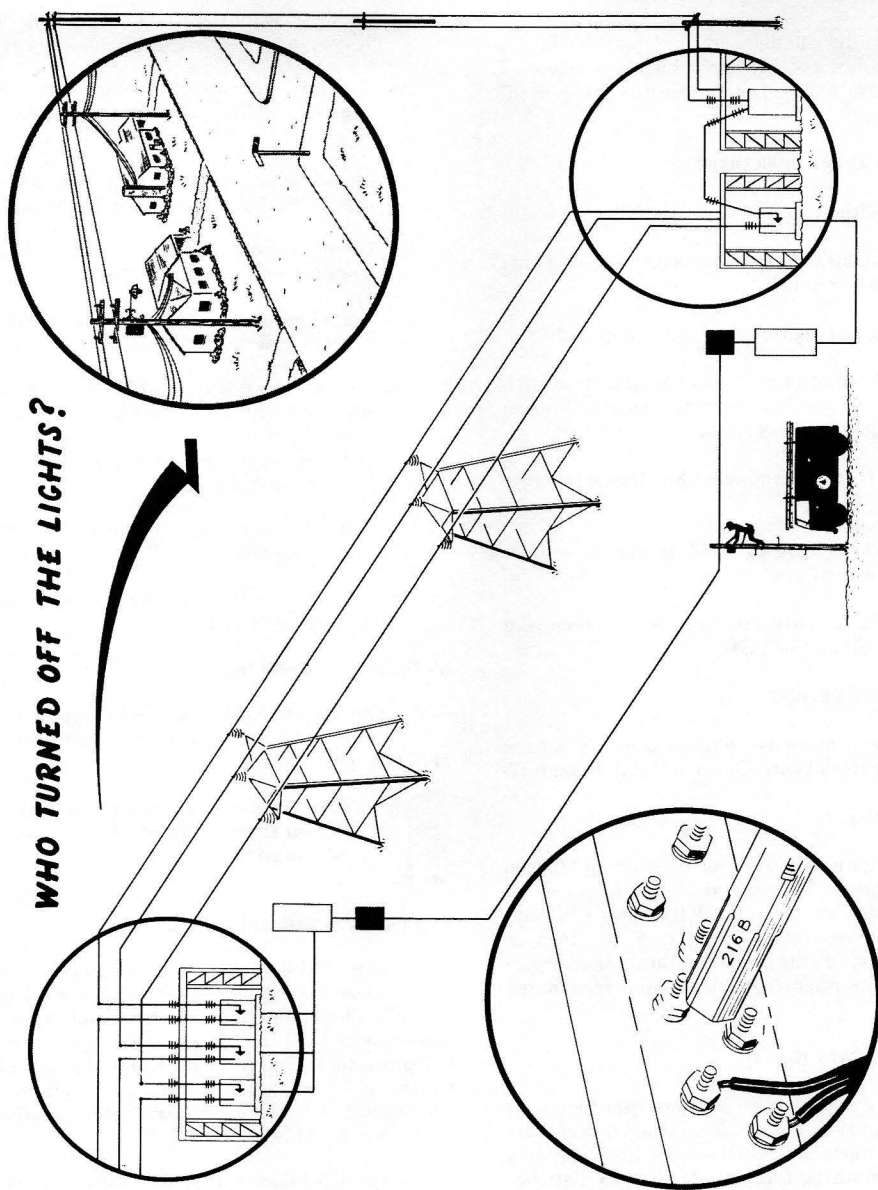

Fig. 2—Who Turned Off the Lights?
- Not shorting terminals when trying to locate a pair (Fig. 2).